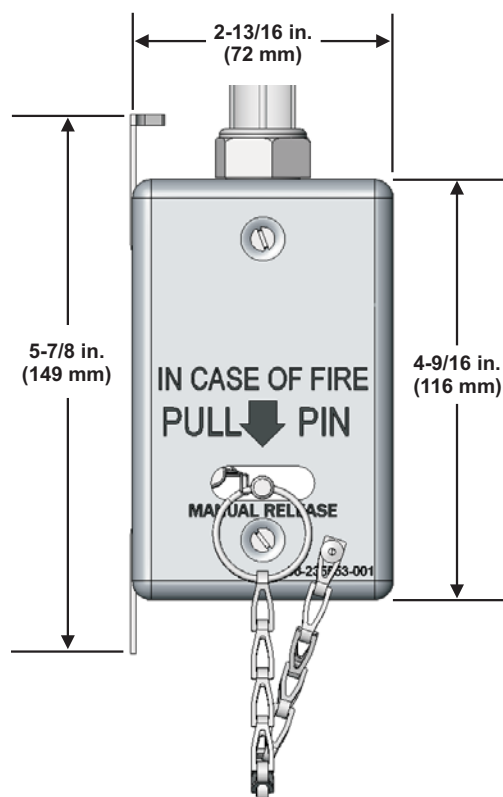

Figure 2-36. Recess Mounted End-of-Line, Remote Manual Release, P/N 9197461
- In-Line Surface Mounted Remote Manual Control (with In-Line Kit), P/N B100030 (Figure 2-36)
— designed for use at the end of the detection line (Figure 2-36).